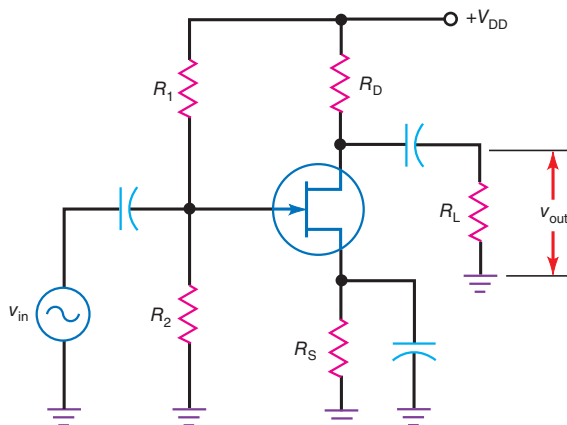

Figure 32-11 CS amplifier.
Figure 32-11 shows a **common-source (CS) amplifier**. The coupling and bypass capacitors are ac shorts. Because of this, the signal is coupled directly into the gate. Since the source is bypassed to ground, all the ac input voltage appears between the gate and the source. This produces an ac drain current. Since the ac drain current flows through the drain resistor, we get an amplified and inverted ac output voltage. This output signal is then coupled to the load resistor.